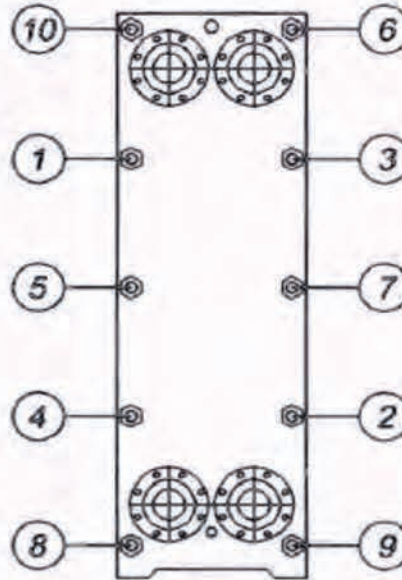

Figure 4.4 Example of Manual Tightening Sequence
- Tighten the plate pack using diagonally opposite tie rod pairs, in a sequence similar to that given in Figure 4.4 below. Ensure during closing that the fixed and mobile heads are kept parallel to each other to within 1/16" to 1/32".